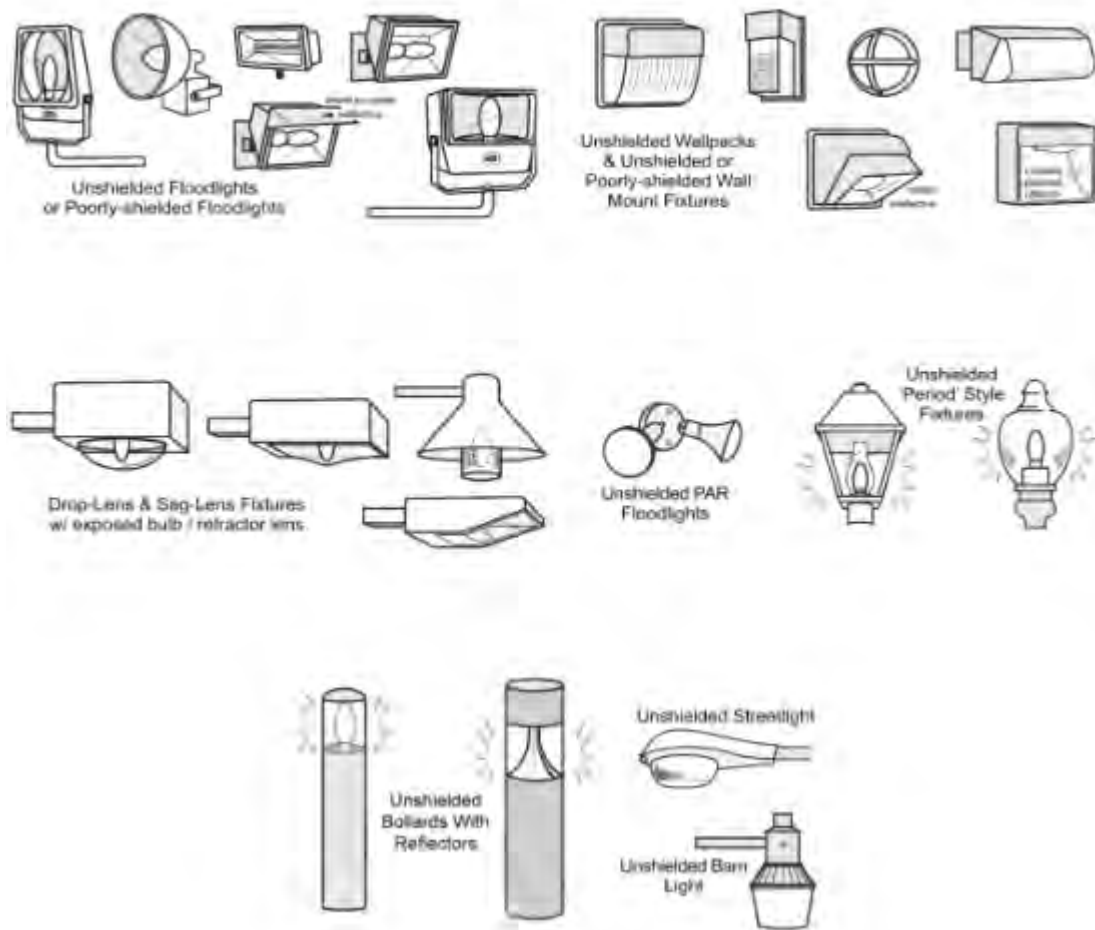

Figure 19-1 Noncompliant Light Fixtures
4. Examples of compliant and noncompliant light fixtures are shown in Figures 19-1 and 19-2.